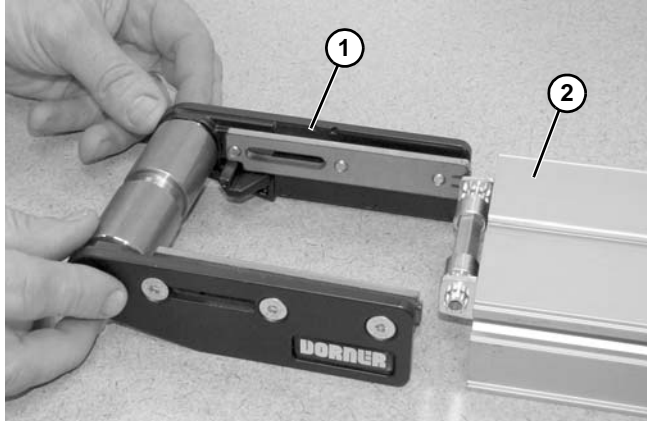

Figure 97
2. Remove idler tail (**Figure 97, item 1**) by sliding off of the conveyor (**Figure 97, item 2**).